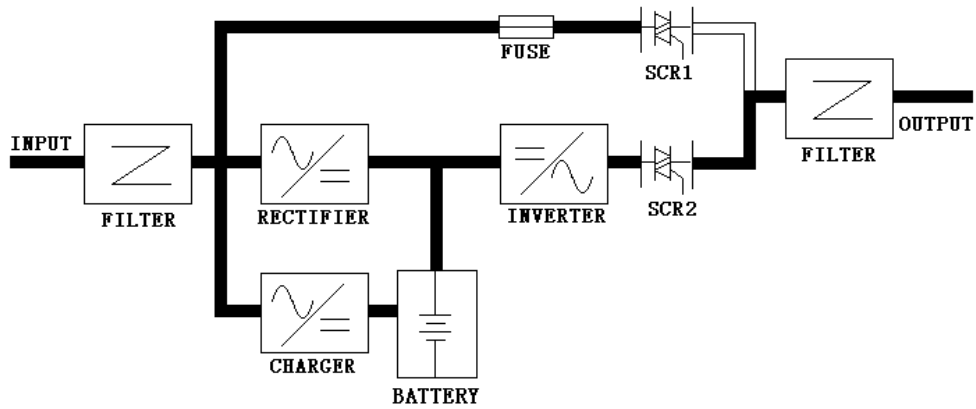

fig35
3) UPS running method when power is out of specified range (15%), as fig35